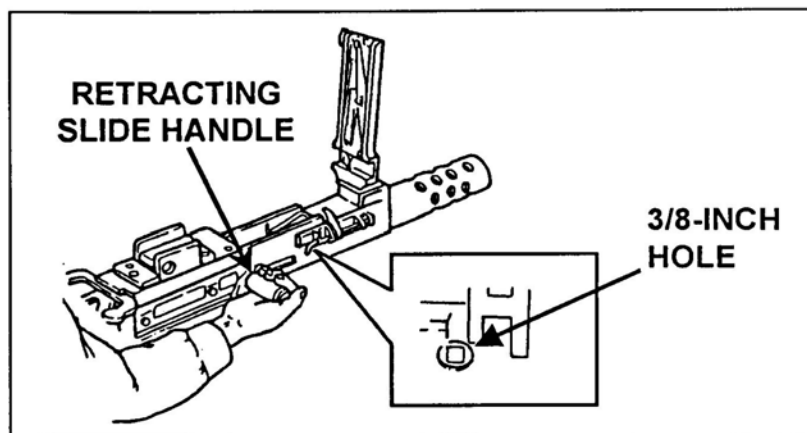

Figure 2. Moving Bolt
- b. Grasp the retracting slide handle with your right hand, palm up; pull the bolt to the rear until the barrel locking spring lug aligns with the 3/8-inch hole in the right side plate of the receiver (Figure 2).
- (1) IF the GO end of the gauge enters freely up to the ring on the center of the gauge, and the NO-GO end will not enter, the headspace is set correctly.
- (2) If the GO end of the gauge will not enter T-slot freely, adjust headspace as follows:
- (a) Retract the bolt so you can see the barrel-locking lug spring in the center of the receiver hole on the right side of the receiver (Figure 2).
- (3) If the NO-GO end of the gauge enters the T-slot, adjust as follows:
- (a) Retract the bolt so you can see the barrel locking lug spring in center of receiver hole on right side of receiver (Figure 2).